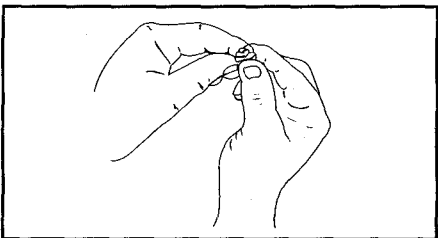

Fig. 33
5. Squeeze the filter to spread and remove excess oil (Fig. 33).